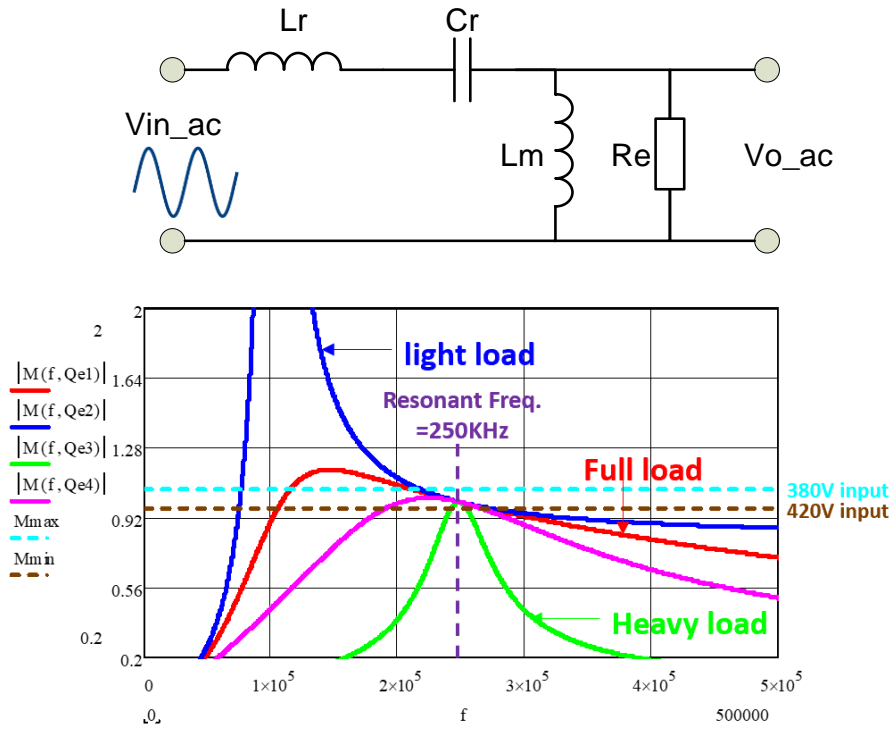

Figure 6. FHA equivalent resonant circuit and the DC gain M curve with frequency
Using the FHA (First Harmonic Approximation) method, the voltage DC gain can be theoretically calculated with reference to the equivalent resonant circuit, shown in Figure 6. This equivalent circuit represents a transformation of the circuit, in which the output transformer and rectifier + filter are reflected by an equivalent load R_e , which is the output loading R_o of the converter transformed back through the converter transformer and can be expressed in equation (2).
The f_r is resonant frequency and Q_e is quality factor. Here, the Q_{e1} , Q_{e2} , Q_{e3} , and Q_{e4} in Figure 6 represent the quality factors at 100% full load, 10% load, 10x load, and 2x load respectively. The LLC converter with wide load range is regulated to 54V with an input voltage range from 380V to 420V. The resonant frequency is set at 250KHz. At 100% full load, the switching frequency operates from 220KHz to 280KHz. At light load or soft start-up conditions, the max frequency is up to 450KHz.